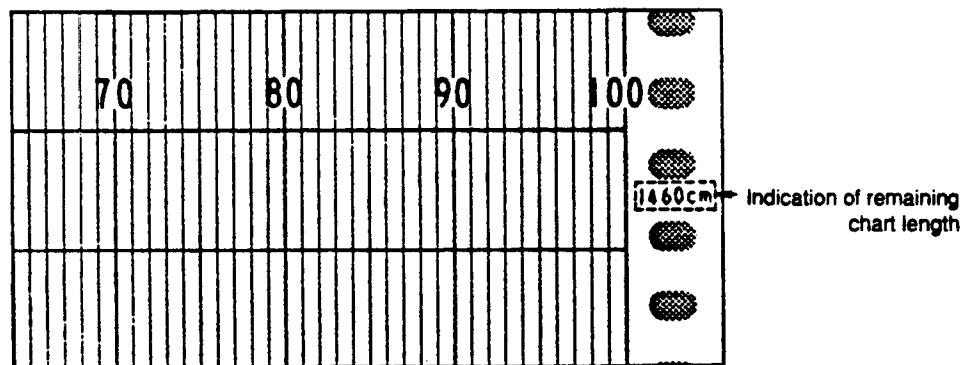

Figure 9-1. Indication of Remaining Chart Length
- Is there enough chart paper left? The remaining chart paper length is printed on the chart's left-side margin at intervals of 15 cm. (See Figure 9-1.) For replacement of the chart paper, see Section 3.